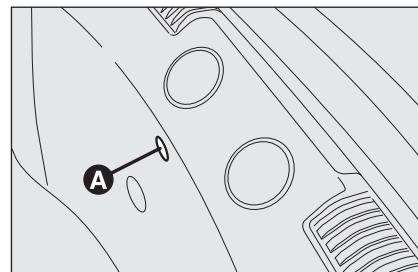
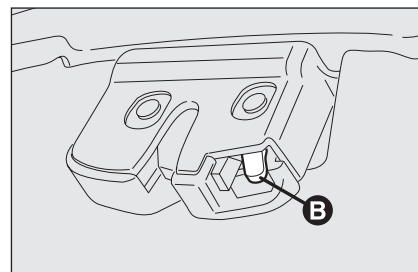

fig. 4
fig. 5
- ❑ take the screwdriver from the tool container and working inside the boot (on the rear part), fit it into seat **A**-fig. 4 and then operate lever **B**-fig. 5.